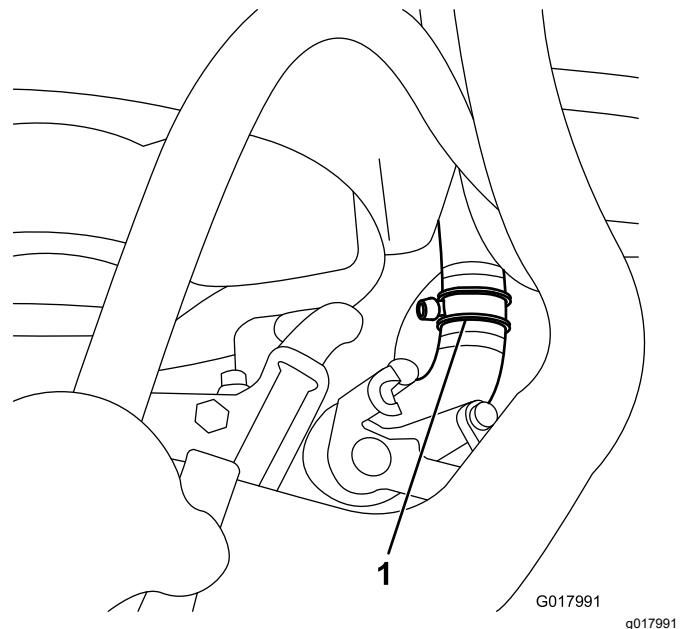

Figure 33
3. Cut the lower radiator hose about 54 mm or 2-1/8 inches from the end of the hose going into the radiator (Figure 33).
4. Connect the tee fitting to each newly cut end of the lower radiator hose with the 2 wide hose clamps (Figure 33).